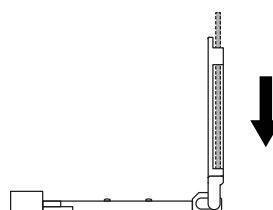
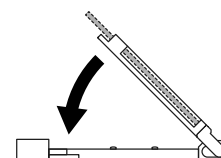

Fig. 40
Fig. 41
3. Place the SIM card into the holder (it will only fit one way, see **Fig.40**) and fold the holder back down, see **Fig.41**.